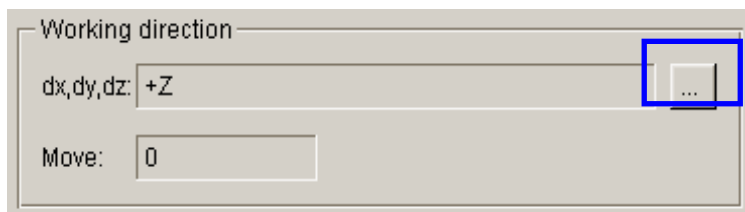

Figure 5.64 Working direction definition
39. Press  button to display the DIRECTION dialog box illustrated in Figure 5.64.